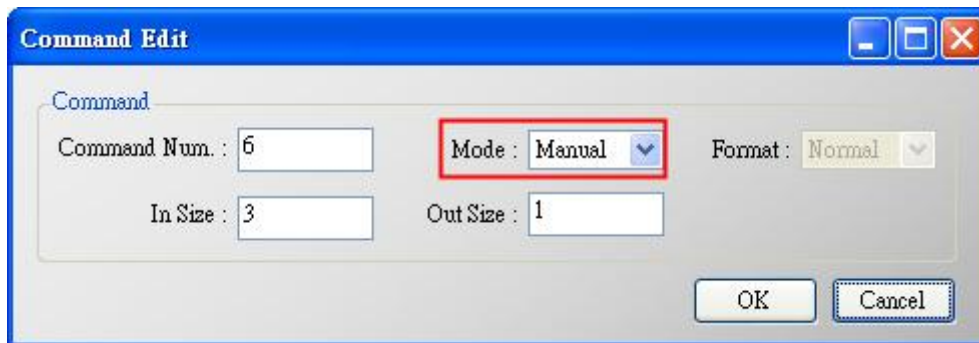

Figure 12-1 Add UserCMD(6)
(1) Run “HG\_Tool” and connect to HRT-710.
(2) Open the “Device Configuration” page.
(3) Add “UserCMD(6)” and choose “Manual” option in “Mode” field. (Figure 12-1)